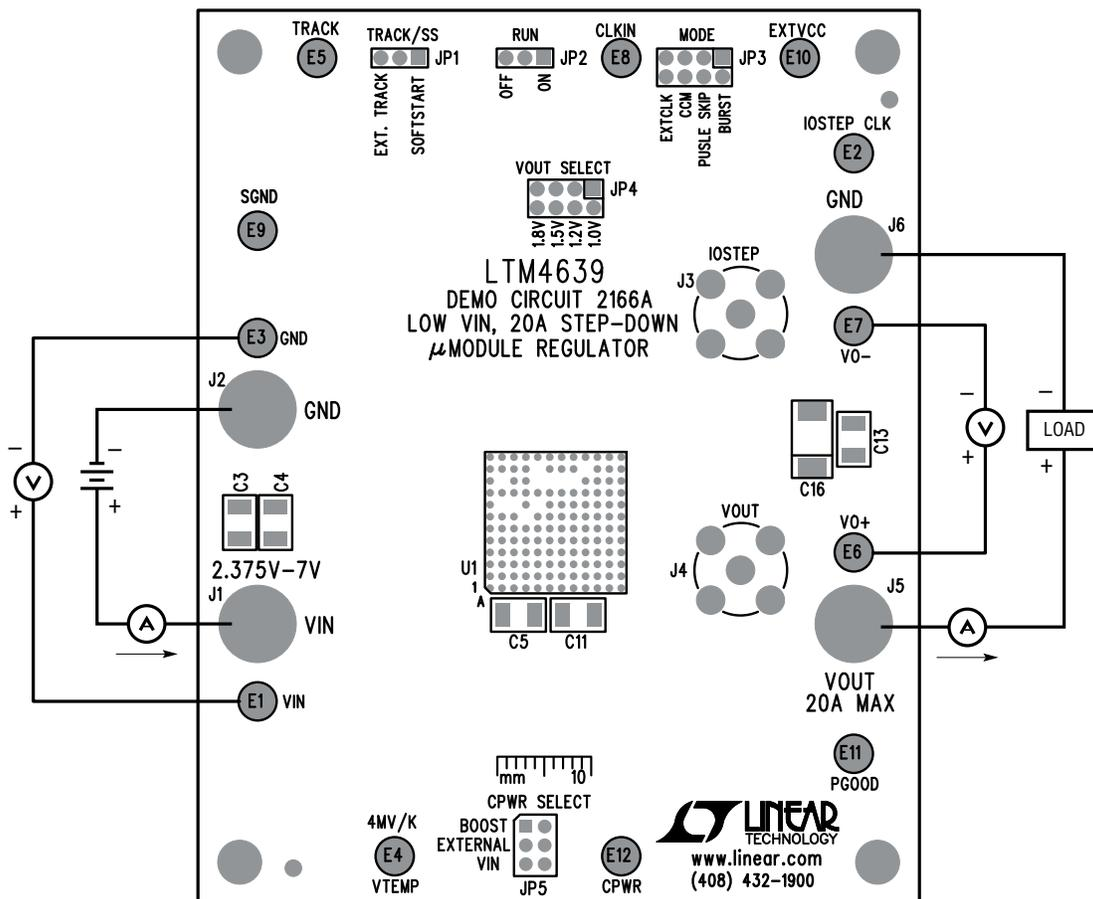

Figure 1. Measurement Setup of DC2166A
Demonstration circuit DC2166A is an easy way to evaluate the performance of the LTM4639EY. Please refer to Figure 1 for proper measurement equipment setup and follow the procedure below:
- With power off, connect the input power supply, load and meters as shown in Figure 1. Preset the load to 0A and V_{IN} supply to 3.3V.